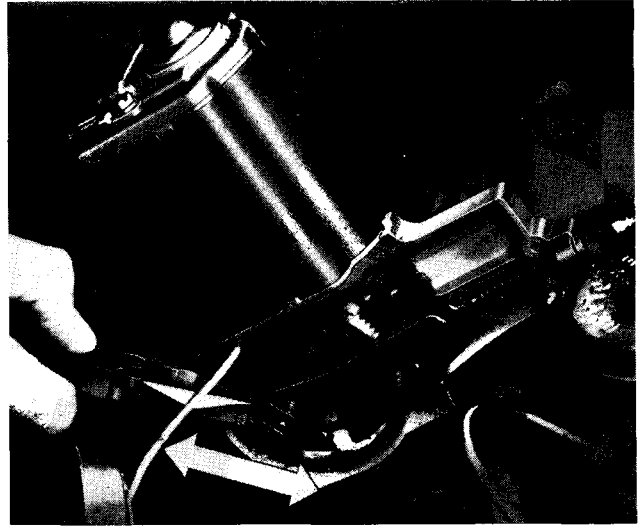

Fig. 43. Crank pin spring clip
3. Operate facia switch to motor final gear to position shown on Fig. 43.
4. Remove crank pin spring clip by withdrawing as shown on Fig. 43.
3. Fit crank pin spring clip by inserting as shown on Fig. 43.